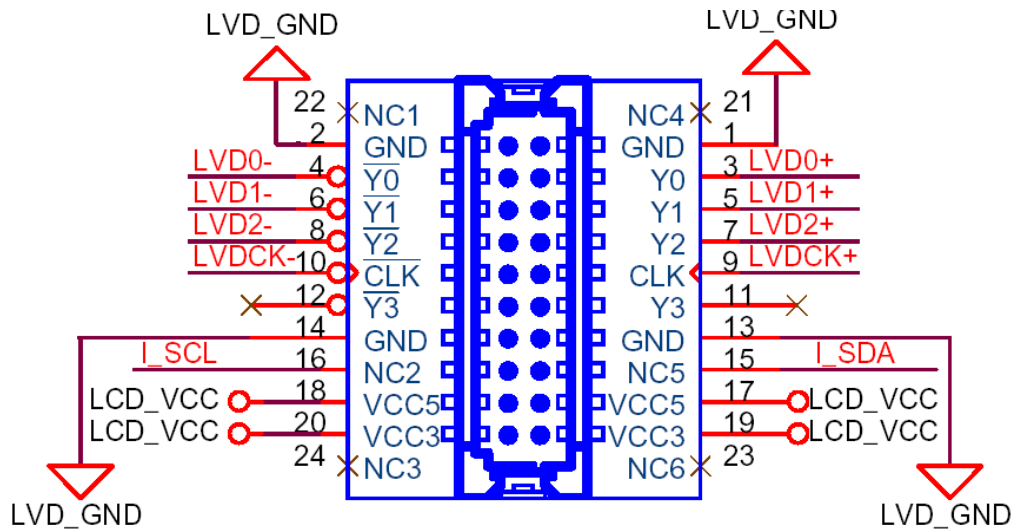

Figure 4-18: TFT LCD LVDS Connector Pinout Locations
- CN Location:** See **Figure 4-18**